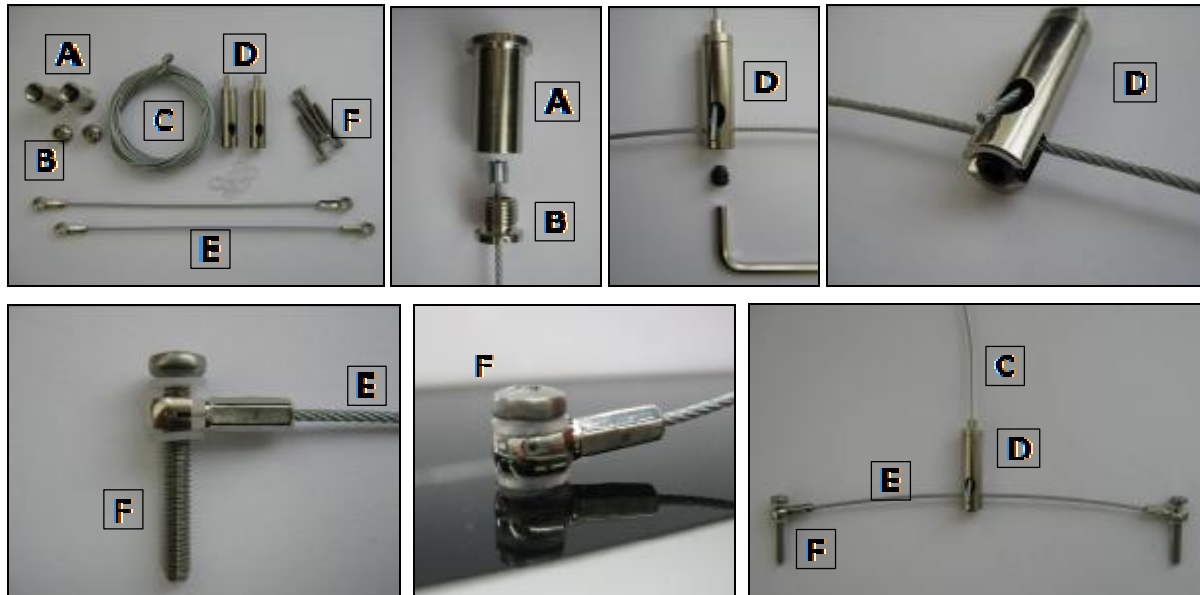

Fig. 1: Suspension kit
Installation of the FUTURA by wire suspension kit (Fig. 1, No. 20300013): Remove the four plastic plugs in the top cover glass of the light unit. Screw in at these points, the two cross wires (F) of the optional FUTURA steel suspension cross cables with their M4 screws **only finger tight**. Make sure that the plastic washer is in place above and below the M4 retaining screw. **Caution: Over-tightening the screws can cause damage to the glass!** Remove the small lock screw in the bottom of the wire holder (D) Insert the cross support cable (E) in the groove of the cable holder, insert the screw and tighten to secure. Check the tightness of the cable holder. Install the ceiling mounting (A) with suitable screws and wall plugs, making sure that the brickwork/ceiling on site can offer sufficient support. If necessary, special fastening systems, such as Hollow wall anchors, screws, etc may be necessary. If uncertain, please consult with a specialist company. Now run the steel cord (C) through the bore of screw (B). Screw (B) into the ceiling mount (A). Insert the loose end of the steel cable into the top opening of the cable holder hole (D) and push through until the end exits through the side hole. Since your light is equipped with continuously variable height adjustment, it can be raised or lowered easily by applying pressure to the nozzle of the spring lock mechanism. For safety reasons, always support the lamp when it is being adjusted. When the light unit is gently lowered again with the nozzle released the cable will automatically lock in place. Always aim to set your light unit level with the aquarium.